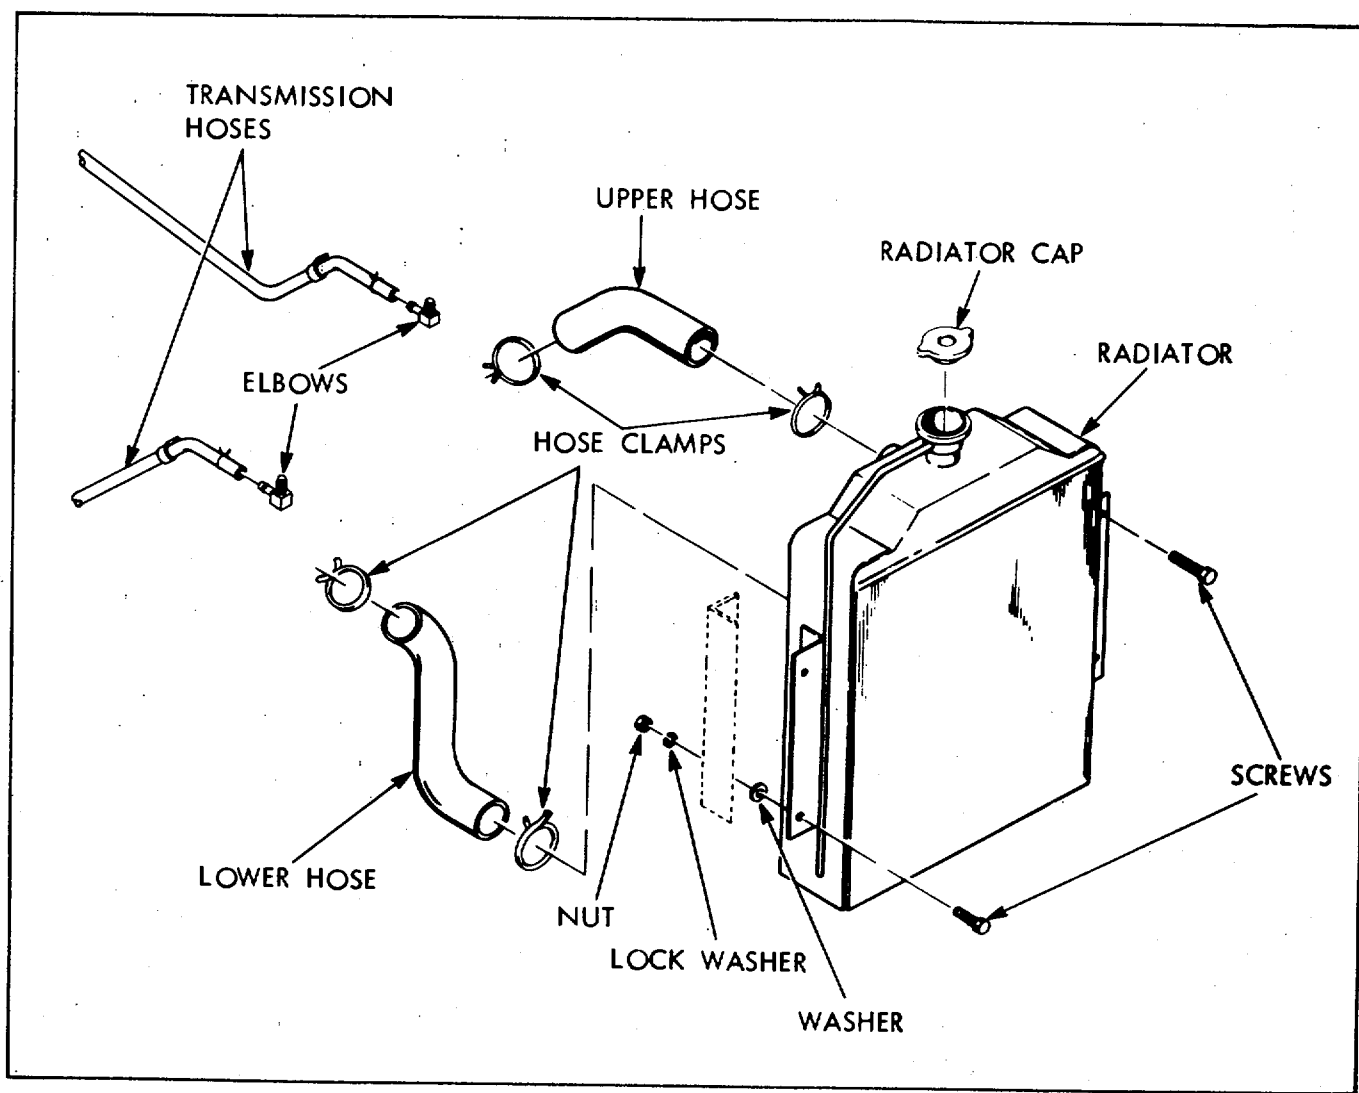

Figure 6-24. Radiator and Lines, Exploded View
(1) Remove radiator cap (Figure 6-24). Remove four screws securing radiator cover on rear deck of truck and remove cover.
(2) Drain cooling system (Paragraph 6-63d.)